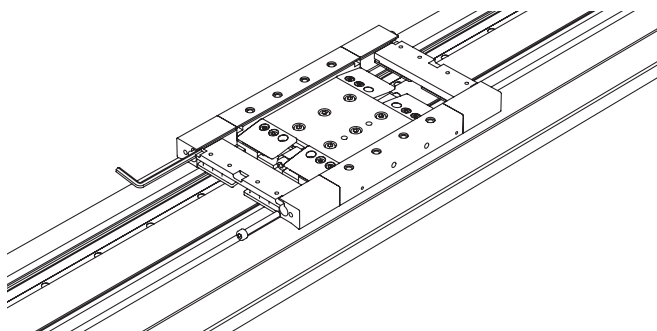

Fig. 7.12 Removing/mounting the cover strip deflection
- ▶ Undo the cover strip deflection mounting screws. Remove the cover strip deflection from both ends of all carriages (see Fig. 7.12).
- ▶ Mount the cover strip deflection on both sides of the carriage as shown in Fig. 7.12.